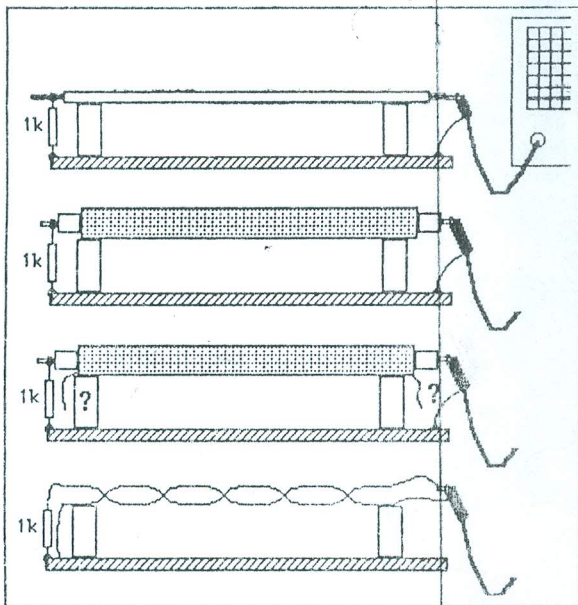

Fig 4.
- f) Connect the cables according to fig 4 a-d and measure the resulting interfering voltages (Use sinusoid signal).